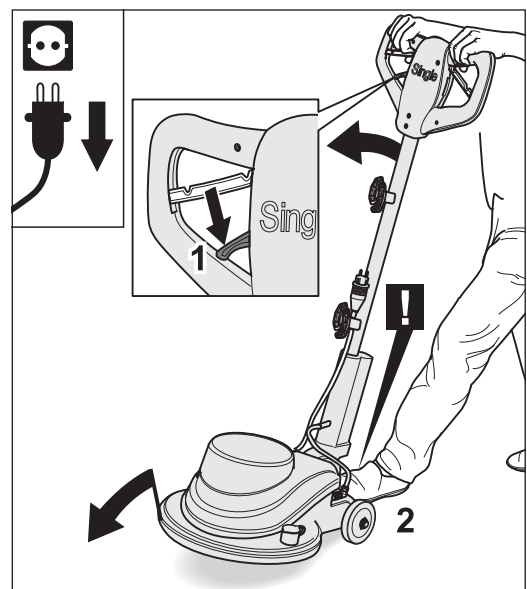

Fig. 16 Release the adjusting lever and carefully tilt the machine back up.
- 7 Carefully tilt the machine back up over the wheels and onto the sanding plate. As you do so, steady the machine with your foot to stop it rolling away (Fig. 16).